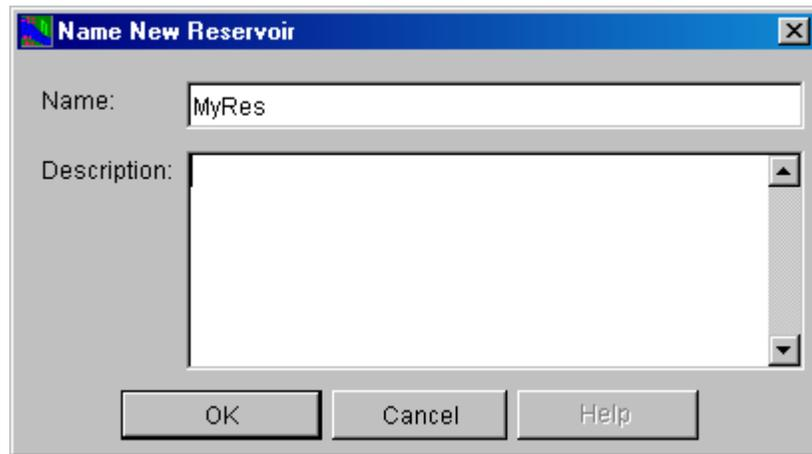

Figure 6.2 Name New Reservoir Dialog Box
4. When you release the mouse button after creating the downstream end of the reservoir, the **Name New Reservoir** dialog box appears (Figure 6.2).